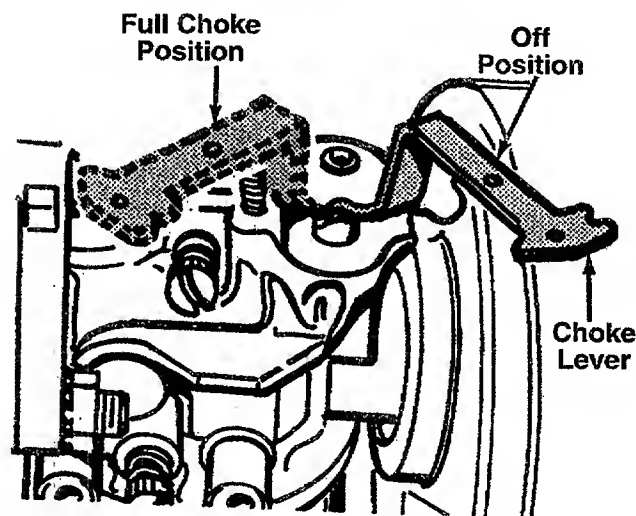

FIGURE 14.
- Move choke lever to CHOKE position (See figure 14).